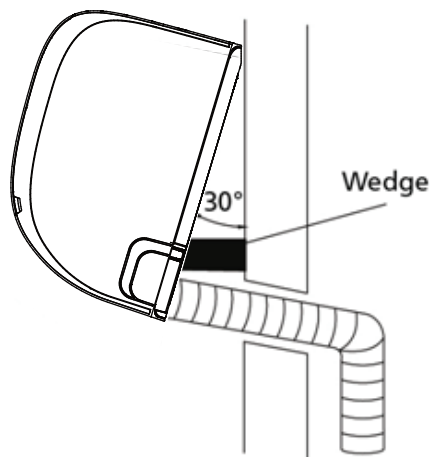

Fig. 3.11
2. Use a bracket or wedge to prop up the unit, giving you enough room to connect the refrigerant piping, signal cable, and drain hose. Refer to Fig. 3.11 for an example.